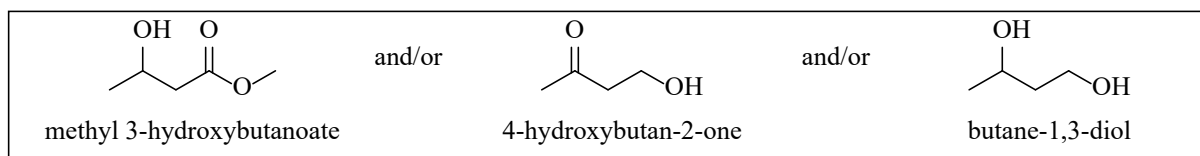

Figure 3. The possible products of the reduction of methyl acetylacetate.
In this exercise, we will be reducing methyl acetylacetate. This substrate contains two carbonyl-containing functional groups, a ketone and an ester, that could potentially be reduced. During this virtual experiment, you will carry out the reduction of methyl acetylacetate using NaBH_4 and identify the product by IR spectroscopy and NMR spectroscopy (^1H and ^{13}C). The structures of the three possible products are shown in Figure 3.
1. Consider the three possible reduction products shown in Figure 3. How did you use the IR spectrum to determine the correct structure of the product (and eliminate the other choices)? Explain fully.
2. Consider the three possible reduction products shown in Figure 3. How did you use the ¹³C NMR spectrum to determine the correct structure of the product (and eliminate the other choices)? Explain fully.